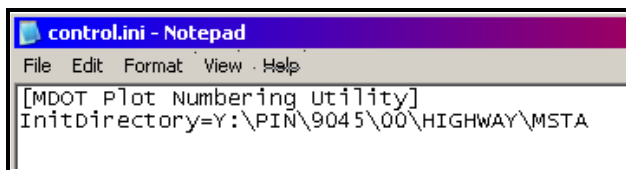

Figure 1-19: Control file
- ❗ ***If you get an error when first opening the utility, it may be because a PIN number that was previously renumbered no longer exist. To fix this problem, browse to your C:\windows directory and open the control.ini file. Delete the InitDirectory line in this file and the path to the PIN that it refers to. Reopen the Sheet Renumber Utility: (Figure 1-19)***